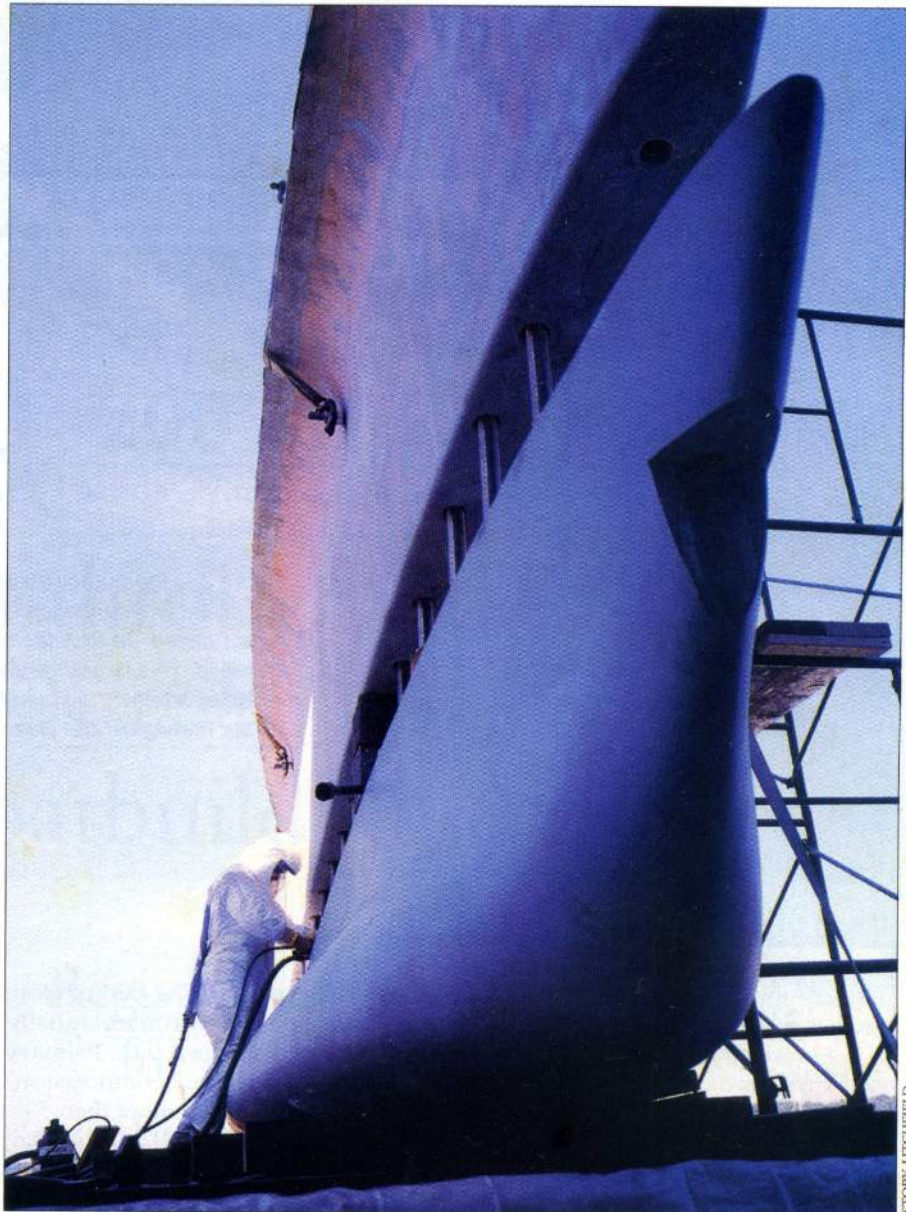

**Figure 1**
**Figure 1** is a graphical representation of these variables in the load situation that ABS assumes. The greatest load on the keelbolts is when the sailboat is knocked down flat in the water—an occurrence that is rare but possible. The keel tries to bend off the hull, but is resisted by the keelbolts on the high side. The values of all the variables are easy to determine, and so the engineering is simple.
**Figure 1**—The ABS *Guide* for Building and Classing Offshore Racing Yachts assumes that the largest load on a keel is in a knockdown situation. The keel can be seen as trying to bend off of the hull; that force is resisted by the pull of the keelbolts on the high side.